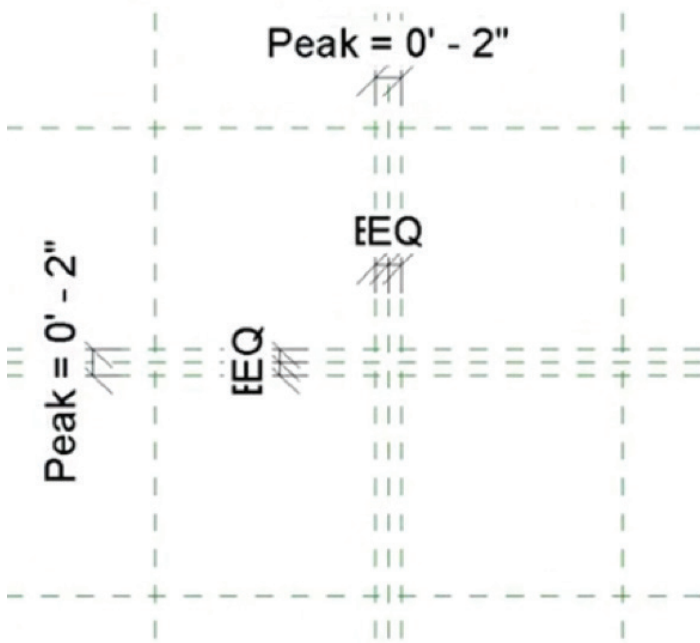

Figure 3.
10. Go back to the Ref. Level floor plan and create the reference planes, dimensions and parameters as shown in Figure 3.